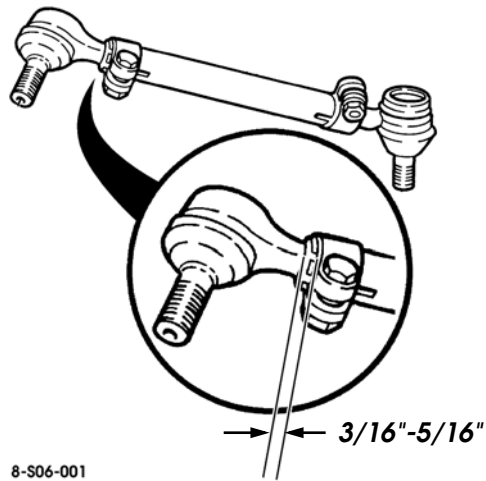

Figure 5: Tie rod sleeve clamp position.
9. Align the sleeve clamps and tighten the bolt and nut assemblies to 30 lb-ft (41 N•m) (See Figure 5).